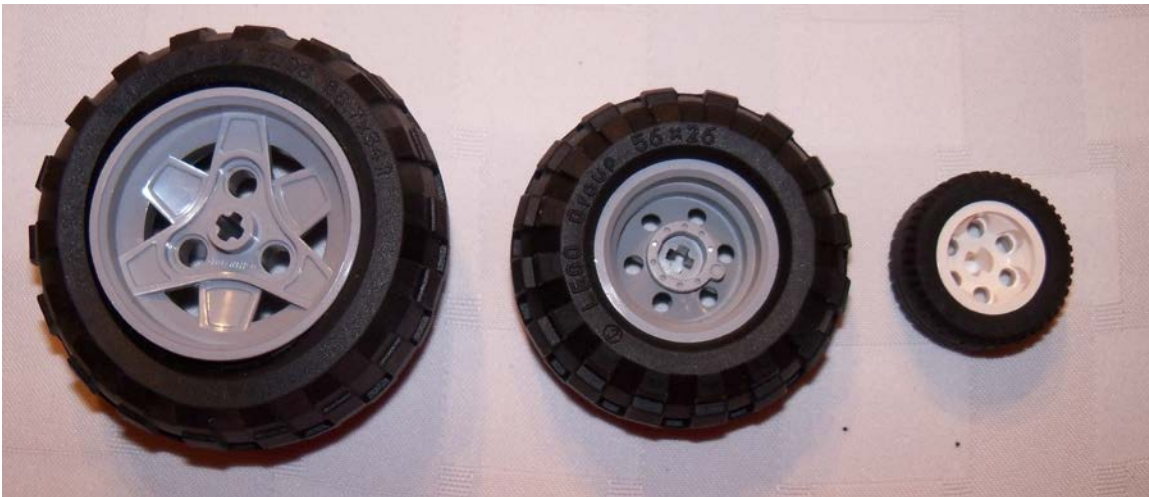

Figure 14. Three different wheel types.
Step 4: Pass out the What is Friction? handouts and have students work in groups to test the different wheels for their ability to create a frictional force. See Figure 14 for sample wheels.